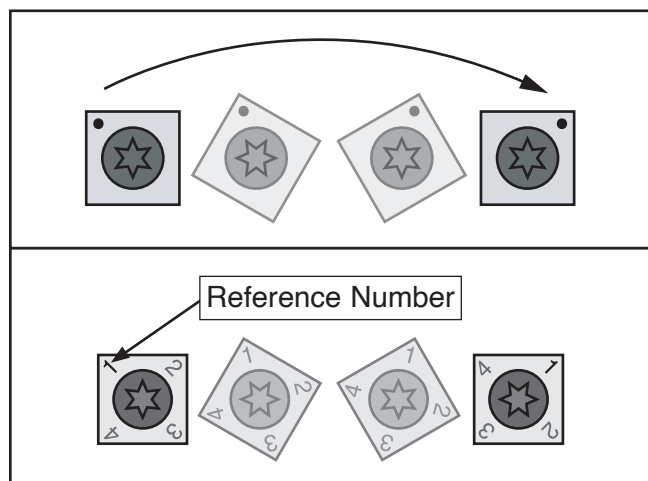

Figure 73. Insert rotating sequence.
6. Rotate insert 90° and install so that a fresh cutting edge faces outward (see **Figure 73**).